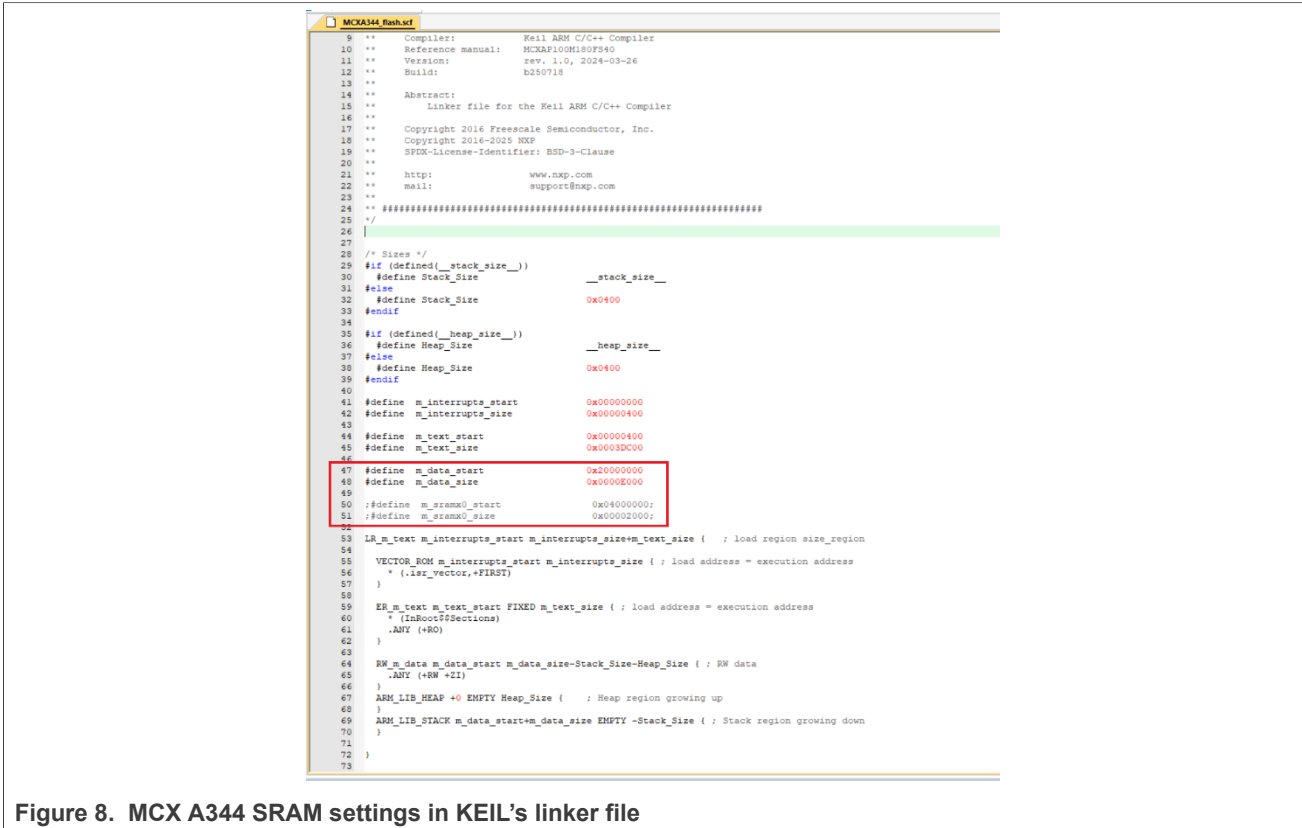

Figure 8. MCX A344 SRAM settings in KEIL's linker file
- For MCX A344, as shown in Figure 8: